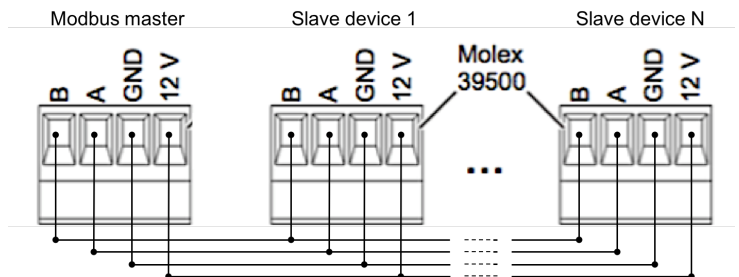

Fig. 3: Wiring the Current Meter to the Modbus Master
- ▶ Prepare the device cable (Fig. 3 shows the pin assignment).